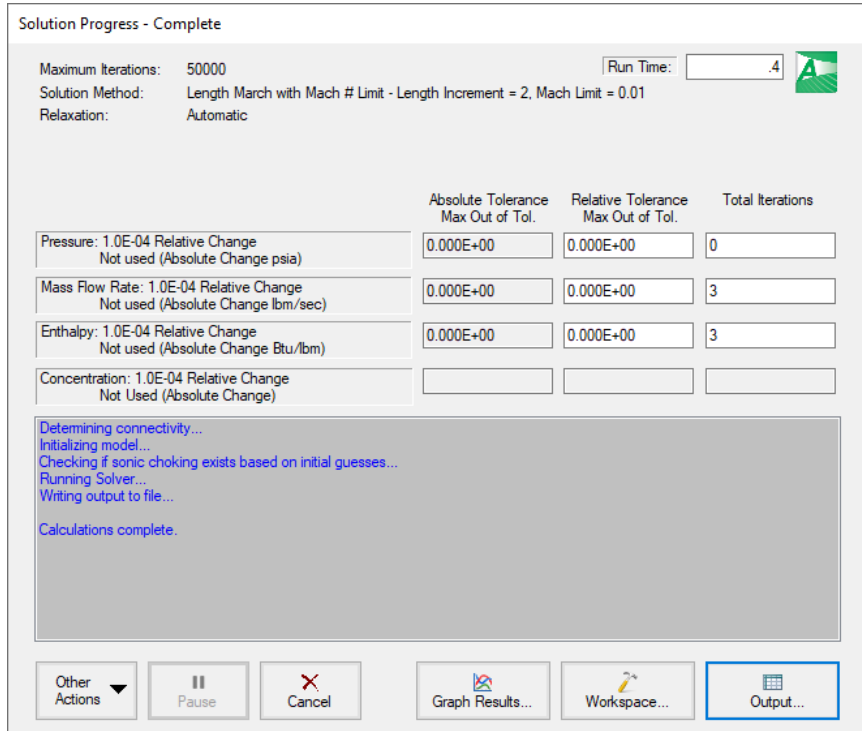
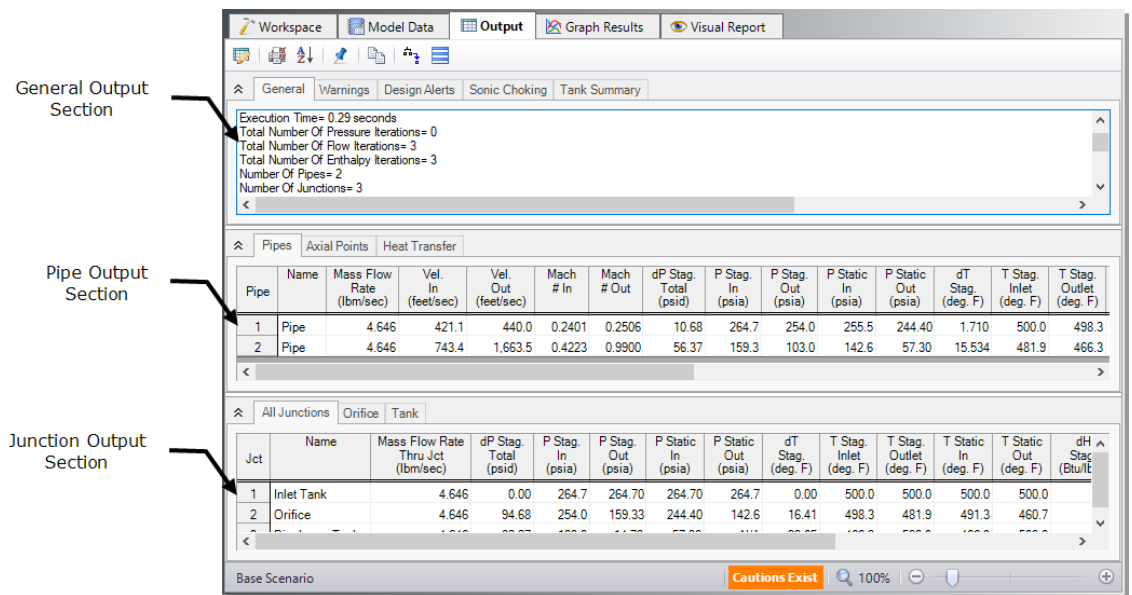

Figure 2.13 The Solution Progress window displays the Solver's convergence progress
Figure 2.14 The Output window displays output in tabular form
- **Choose “Run Model”** from the Run Model icon on the Main Toolbar or the Analysis menu. During execution, the Solution Progress window is displayed and can be used to pause or cancel the Solver's activity (see Figure 2.13). When the solution is complete, click the Output button and the text-based Output window will appear (see Figure 2.14). The information in the Output window can be reviewed visually, saved to file, exported to a spreadsheet-ready format, copied to the clipboard, printed to PDF, or printed out on the printer.
The Output window (Figure 2.14) is similar in structure to the Model Data window. Three areas are shown, and you can expand or collapse each area by dragging the boundary between the areas up or down, or by clicking the arrow beside the area label. The items displayed in the tables are those items you choose in the Output Control window.